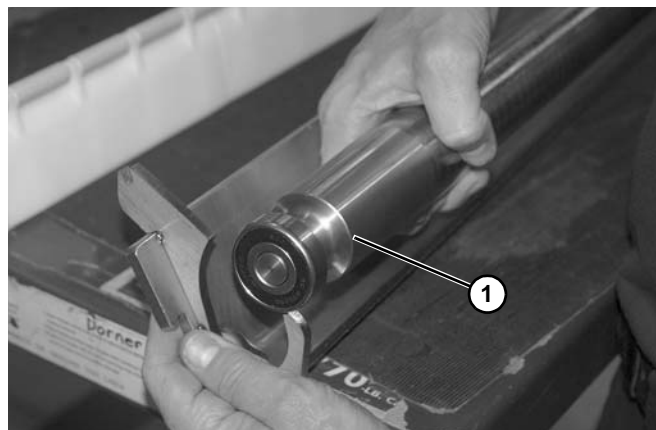

Figure 145
7. Remove idler spindle (Figure 145, item 1) from mounting bracket.